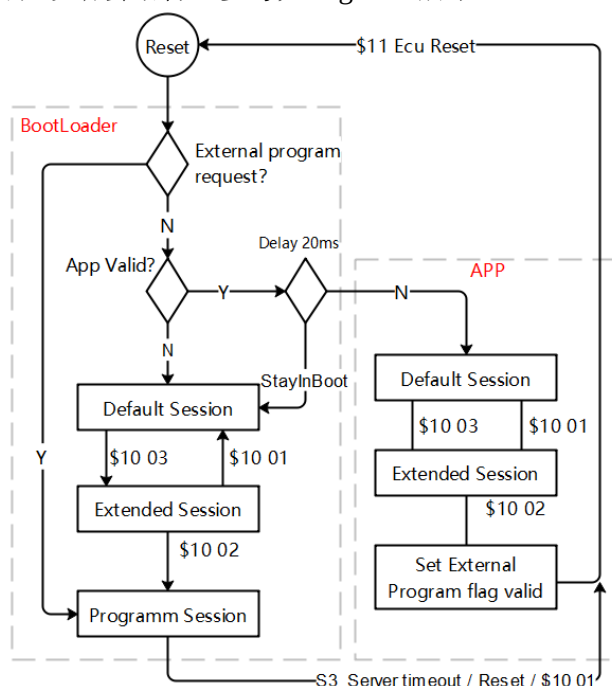

Figure 2: Process of reprogramming not supported and dual backup not supported by the application
For an ECU of an embedded system (without an operating system (OS) or file system), application programming is not supported. Figure 2 shows the flowchart of the Bootloader startup and diagnostic session management of this kind of ECUs.
对于传统 ECU（不带操作系统和文件系统），通常不支持应用程序编程，其 ECU 的 BootLoader 启动流程图和诊断会话管理参考见 Figure 2 所示。